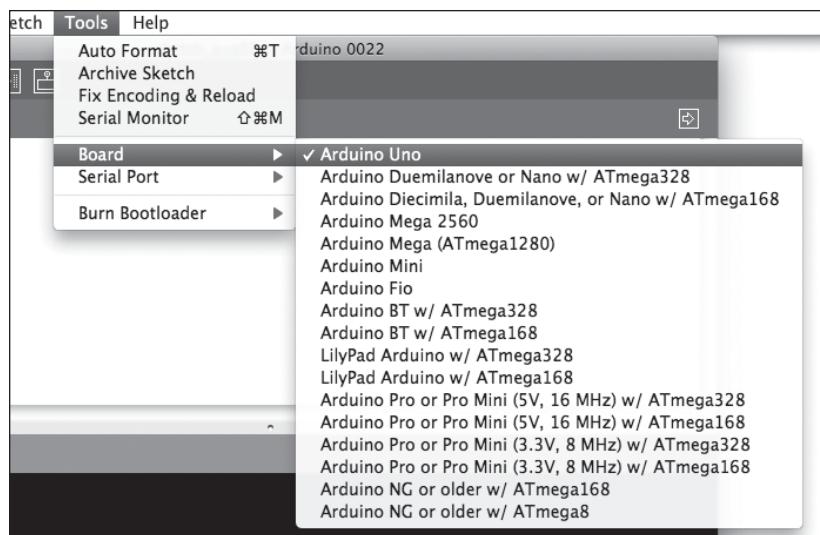

Figure 1-14: Selecting the correct Arduino board
4. The final step is to tell the IDE which Arduino board you have connected. This is crucial, since Arduino boards do differ. For example, if you have the most common board, the Uno, then select **Tools** ▶ **Board** ▶ **Arduino Uno**, as shown in Figure 1-14. The differences in Arduino boards are explained in more detail in Chapter 11.